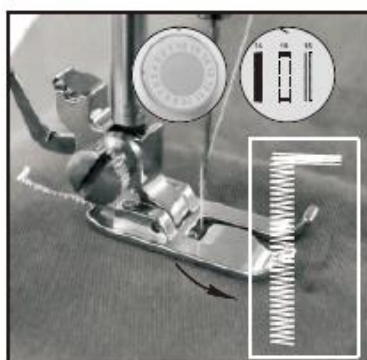

Fig.16
- 3) Choose the 7th stitch, turn on switch and sew on the cloth in suitable length, then turn off switch. Note that try to keep sewed stitches in straight line (Fig.16).